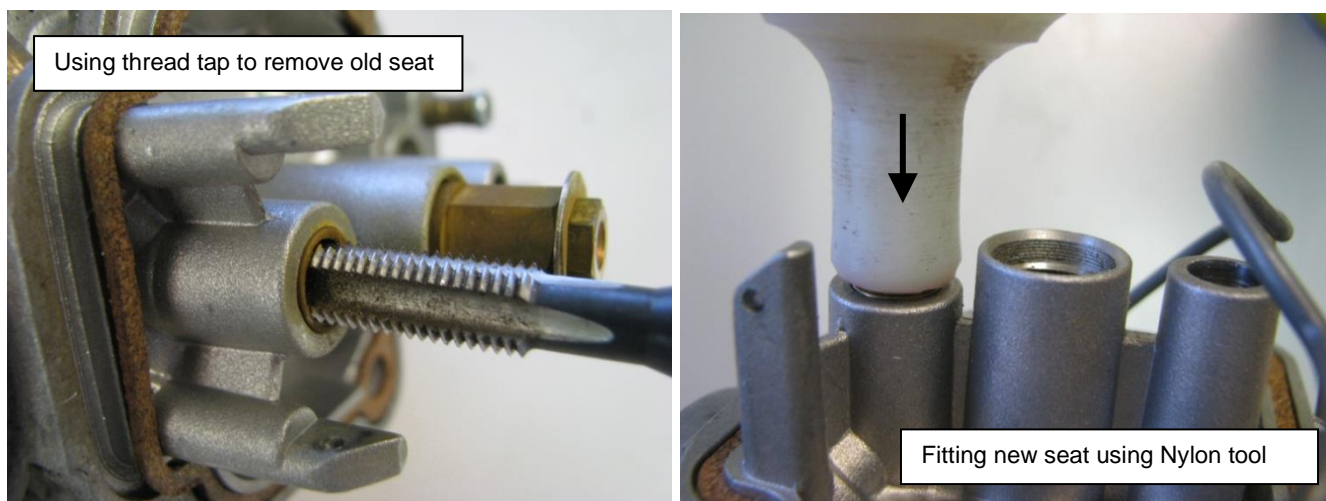

Figure 118 – Fitting New Float Needle Seat
- The float bowl needle seat must be checked. 3300 engines use a 2.4mm diameter, specially shaped orifice in this part while the 2200 engine uses 2.0mm – though the 2.4mm seat is also acceptable for 2200 applications. Figure 30 shows the tools needed to change the seat which is located in the carburettor body above the float needle. As noted at Figure 30, if the seat is to be changed a tap is used to remove the old part and a special nylon drift used to install the new. More details of this process are included in Section Figure 118.